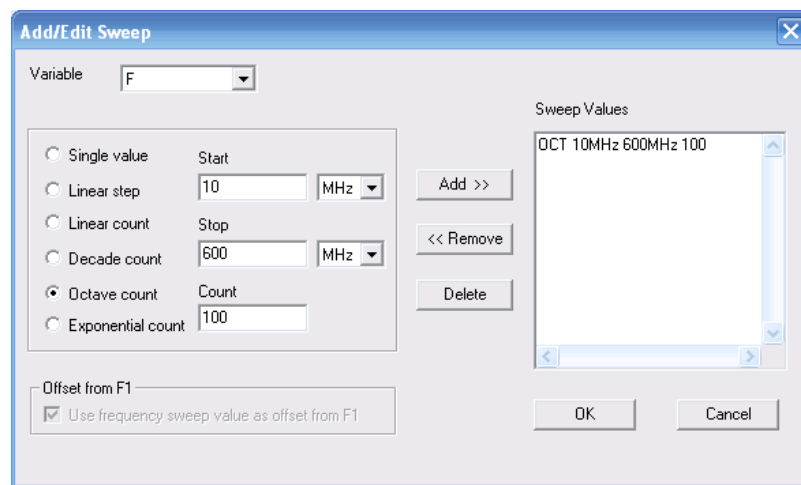

Figure 8. Analysis editor where a frequency span is entered.
16. With the schematic built, an analysis profile must be defined which is similar to adding a .AC line in Pspice. To define the analysis, click the **Project** tab in the project window. Expand **Project1***. Expand the **Circuit1** list and right click the **Analysis** symbol. Then select **Add Solution Setup ...**. A new box appears, click **Next**. Click on **Add...** and then the **Edit...** button. Enter data as shown in Fig. 8. Then click on